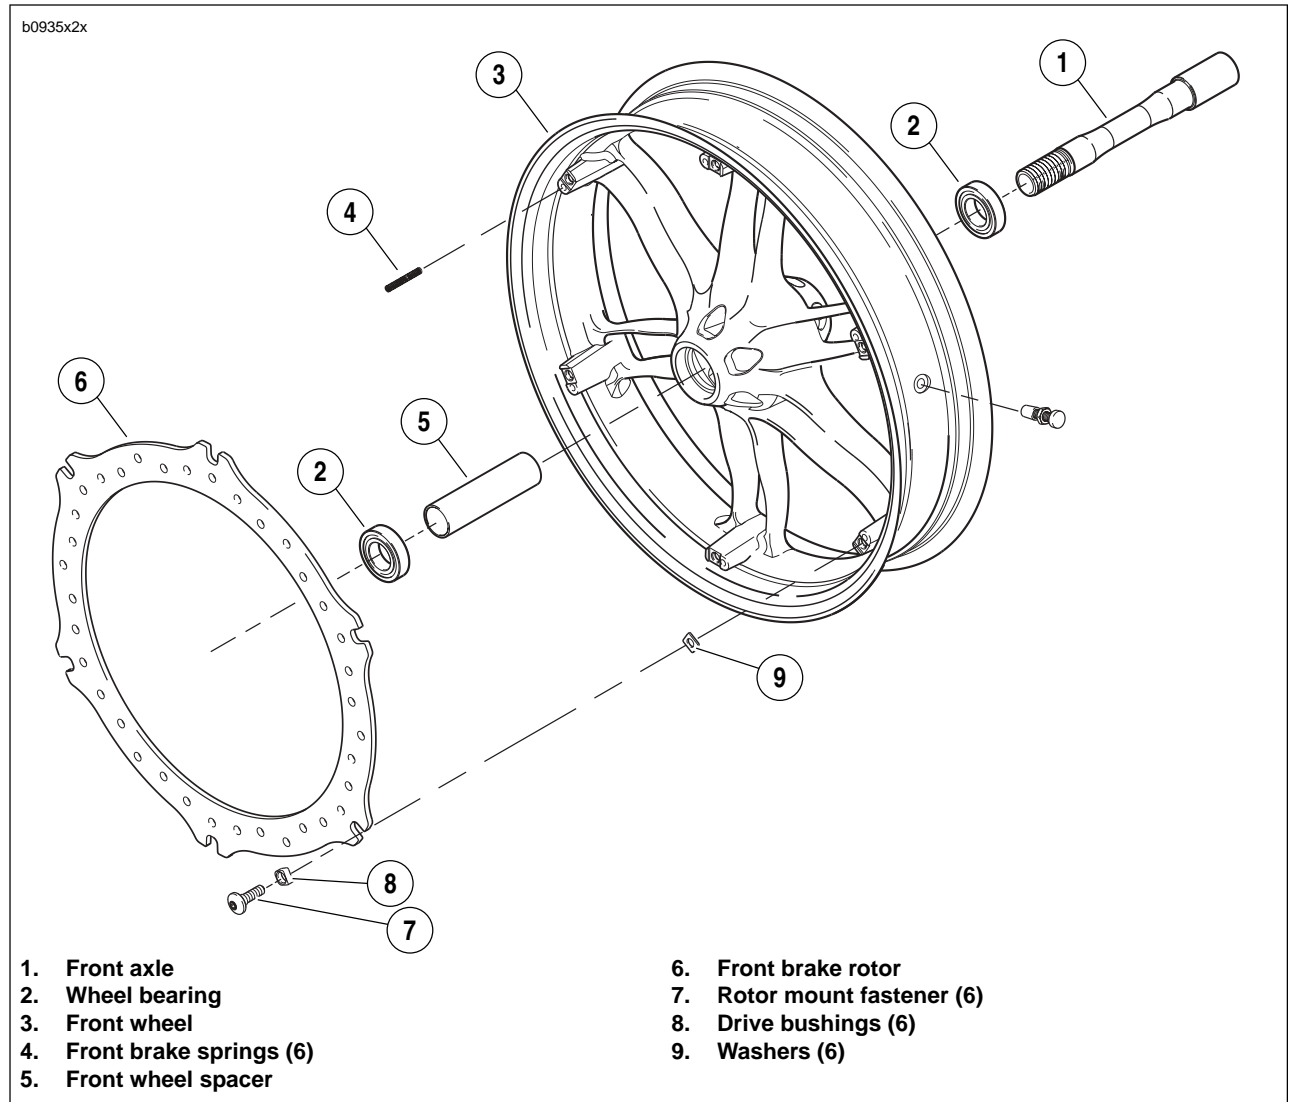

Figure 2-18. Front Wheel Assembly
1. See Figure 2-18. Remove and discard rotor mounting fasteners (7).
2. Remove and inspect brake rotor (6) for wear and warping. See 1.8 TIRES AND WHEELS.
3. Remove drive bushings (8) and discard.
4. Remove washers (9) and discard.
5. Remove front brake springs (4) and discard.
1. See Figure 2-18. Install spacer (5).
2. Install **new** wheel bearings (2) into hub using suitable driver. Press on outer race only.
1. See Figure 2-18. Install **new** spring (4).
2. Install **new** washers (9).
3. Install drive bushings (8) into rotor.